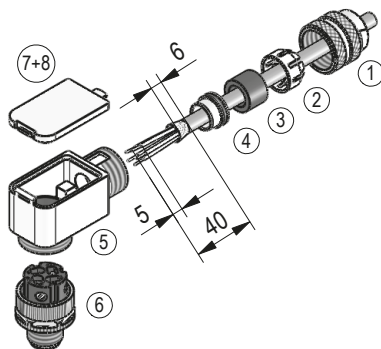
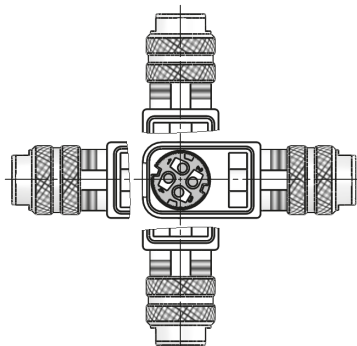

Fig. 14: Right angle mating connector M12 D coded
Fig. 15: Angled positions
- ▶ Strand cross sections of lines  $\leq 0.75 \text{ mm}^2$  / cable feed-through:  $\varnothing 6 \dots \varnothing 8 \text{ mm}$  (Ethernet port 1 (IN) + port 2 (OUT)).
- Accessory SIKO art. no. "87600" M12 D coded (plug pin 4 pole Ethernet port 1 (IN) + port 2 (OUT)) (Fig. 14 + Fig. 15).
#### Mounting (Fig. 14)
**Changing the angle position (Fig. 15)**
1. Slightly unscrew pressing screw ①.
2. Remove cover ⑦.
3. Untwist insert ⑥ and turn to the desired angle position (90° steps) and then twist it again.